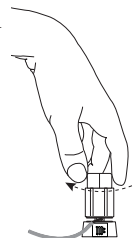

Figure 4
3. Rotate the top of the Output Terminal Post clockwise until it is finger tight. Refer to figure 4.